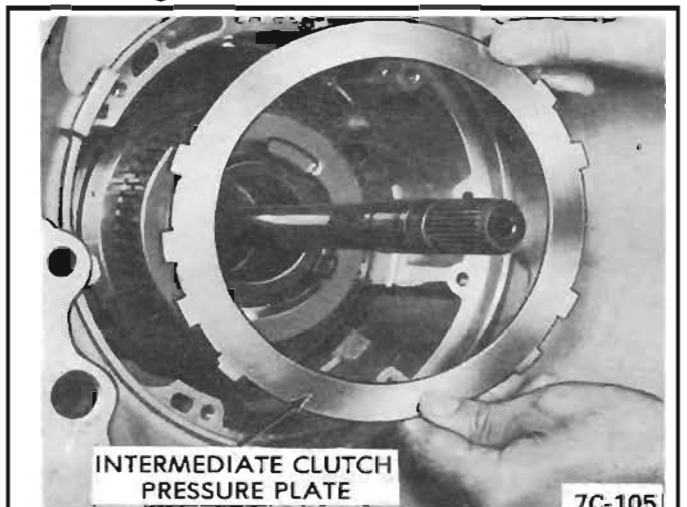

Figure 94 Intermediate Clutch Pressure Plate
1. Install intermediate clutch pressure plate. *See Figure 94.*